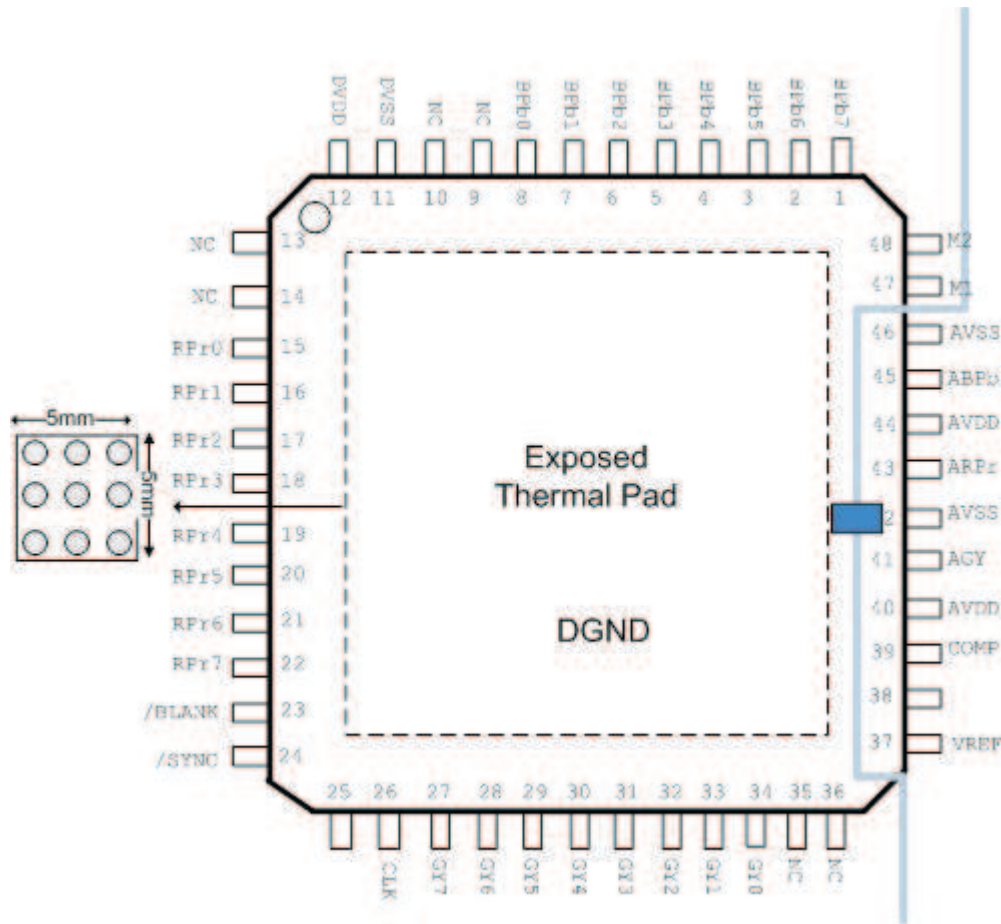

Figure 1. Recommended Split Between GND Planes
- See Figure 1 below for recommended GND split when split planes are used.